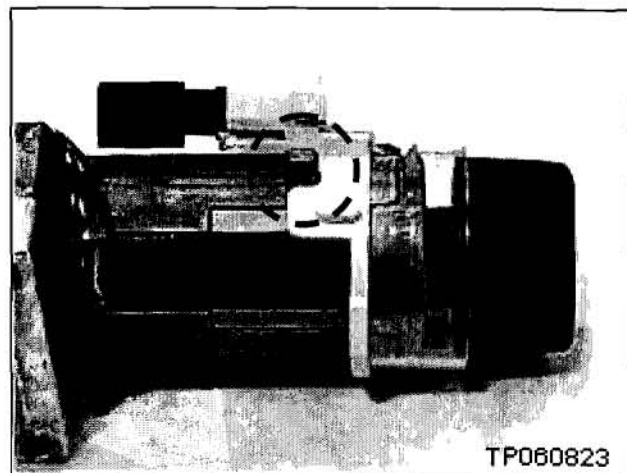

Figure 21
- Make sure the slot is aligned with the tab shown in Figure 21.